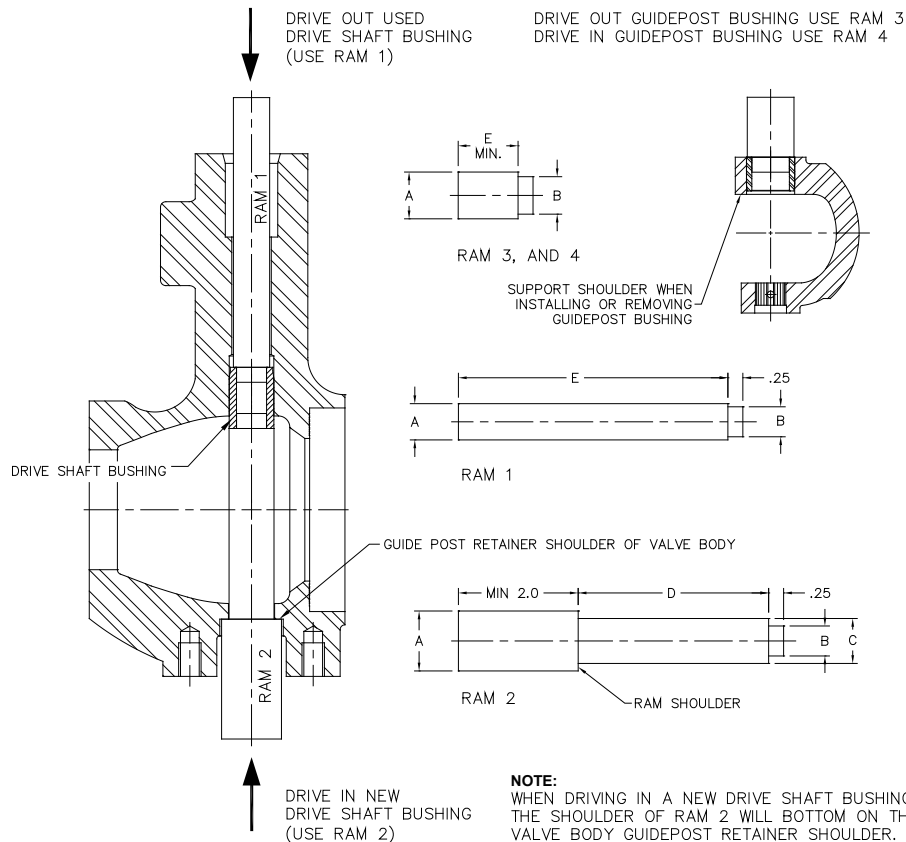

Figure 5. Ram Dimensions for replacing Bearings
To remove the bearings (Keys 8 and 11) see figure 5 for replacing the bearings. Refer to the bearing replacement procedure. When a new body (Key 7) and drive shaft bearing (Key 8) or V-Ball (Key 21) and guide post bearing (Key 11) is ordered, the bearing will be pressed in at the factory.
S&S does not recommend replacing bushings in the field. The procedure is difficult and may cause permanent damage to the V-ball. If replacement of the bushing in the field is necessary, follow the instructions that follow and the dimensions in figure 5.
2. From figure 5 select the proper size ram and insert it in the body. This will allow you to drive out the bushing with a hydraulic press.
7. Support the ball as indicated in figure 5. Push the new bushing in flush with the ball ear.